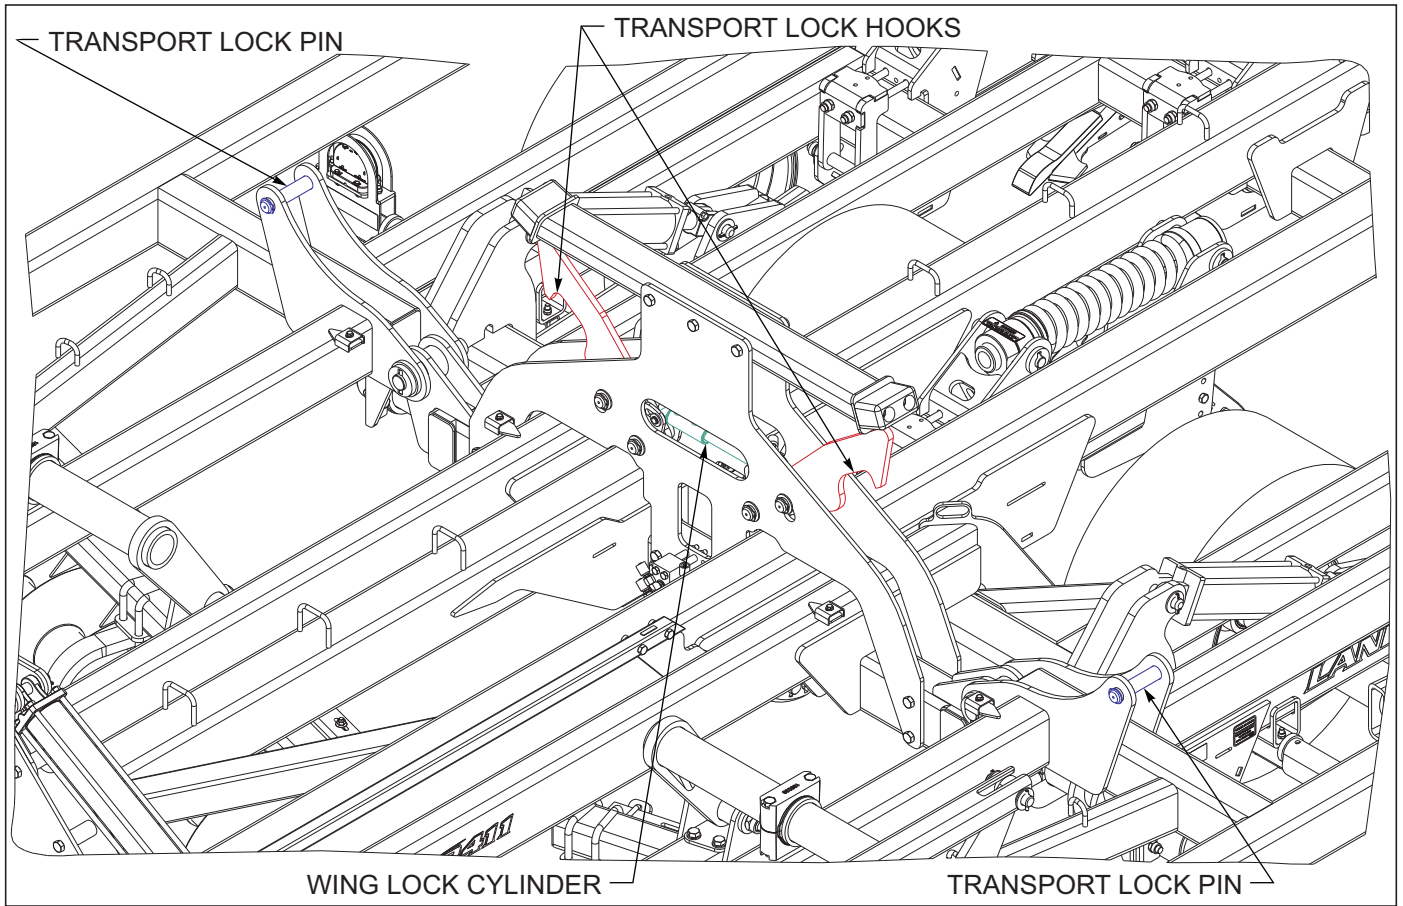

Figure 4-4: Automatic Wing Lock 2411AFG-07-09
5. The hydraulic fold system has an automatic wing lock cylinder in the system *See Figure 4-4*. This small cylinder is in the center of the machine and will work opposite of the wing fold cylinders. Verify that when the wing fold cylinders are retracting that this 1-1/2" bore x 1-1/2" stroke cylinder is extending.